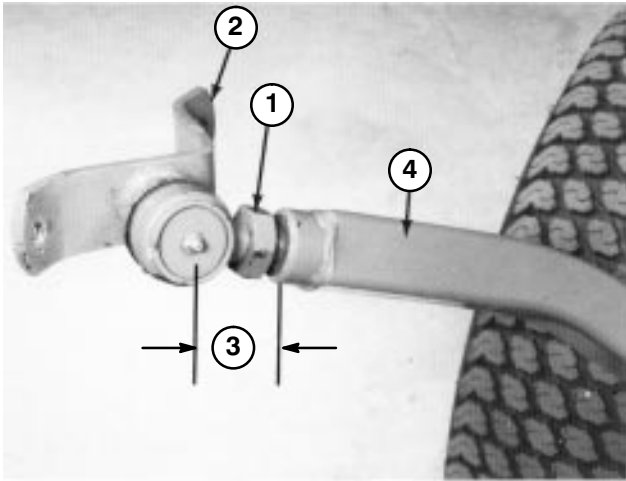
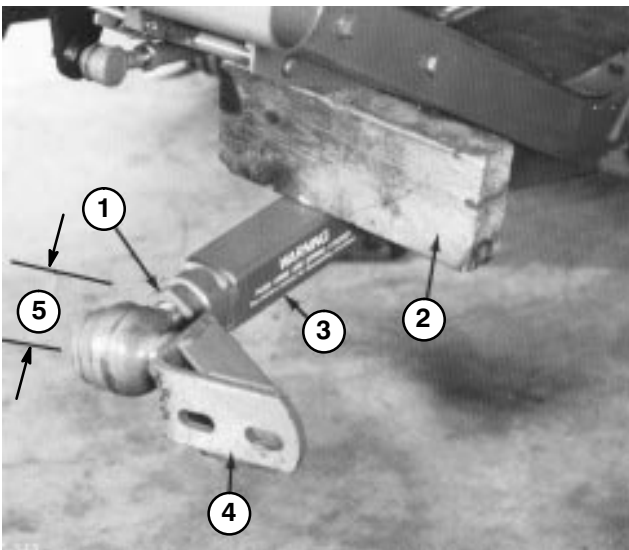

Figure 12
Figure 13
2. Screw ball joint into right hand push arm until center of ball joint is 2-3/8 inches (60 mm) away from front of push arm (Fig.12). Do not tighten jam nut.
4. Have a helper push down on the left push arm. Then insert a 2 x 4 in. (51 x 102 mm) block of wood between the frame and top of the push arm (Fig. 12). Screw ball joint into left hand push arm until center of ball joint is 2-3/8 inches (60 mm) away from front of push arm (Fig. 13). Do not tighten jam nut.